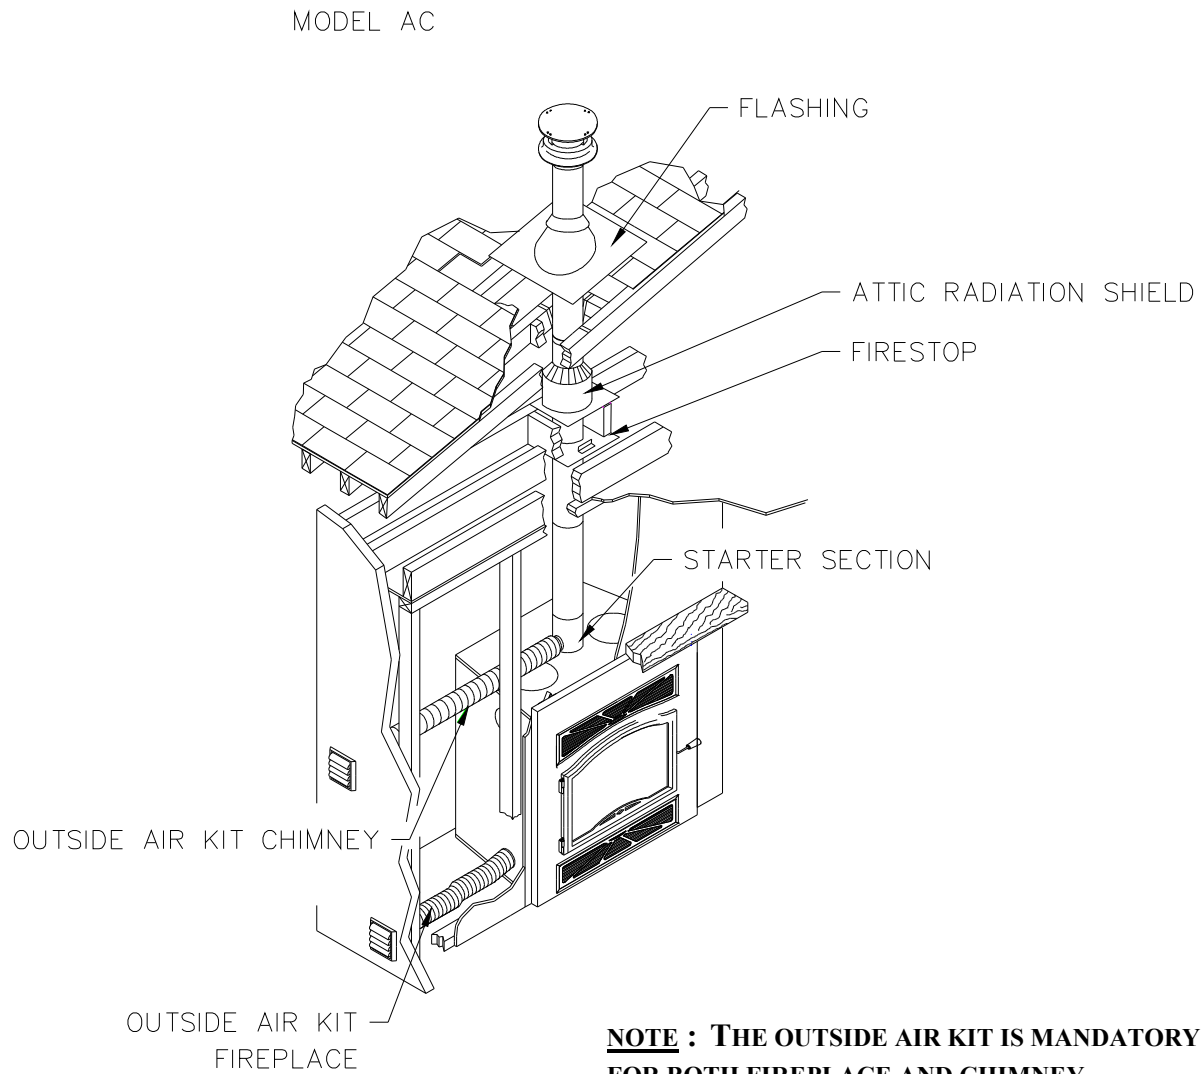

Figure 28
3. For Secure TempASHT+ / Nova TempHT6103+ and Secure TempS2100+ / Nova TempHT6000+ chimneys, place the first chimney length on the fireplace. To lock it in place, turn ¼ of a turn clockwise. With the ACBI chimney, you must use a starter section before installing the first chimney length (figure 28). Continue installing chimney lengths making sure to lock each length in place.